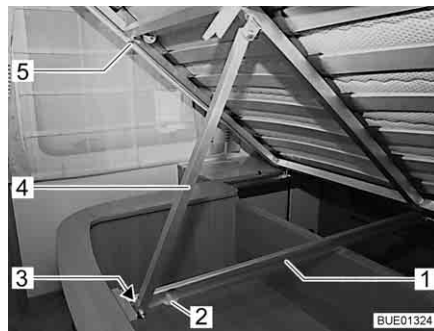

Fig. 110 Fixed bed
- Lift up the slatted frame (Fig. 110,5) and push it upwards until the bar (Fig. 110,4) in the guide rail (Fig. 110,1) has reached the end position (Fig. 110).
- Lift up the slatted frame (Fig. 110,5) and push back the bar (Fig. 110,4) at the lower end. Ensure that the roller (Fig. 110,3) at the end of the bar near the access opening (Fig. 110,2) does not become detached from the guide rail (Fig. 110,1).